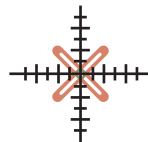

Fig. 32
The flashing bearing aid (X) in the middle of the reticle indicates that the binoculars are ready to take a measurement, see Fig. 32.